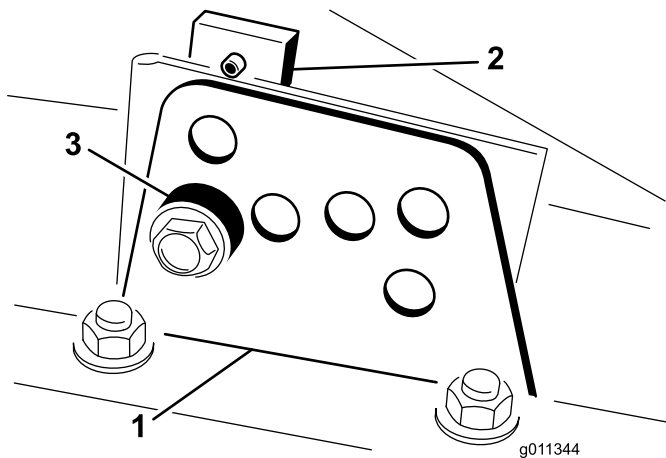

Figure 9
2. Loosen the bolt securing each height-of-cut bracket to the height-of-cut plate (front and each side) (Figure 9).